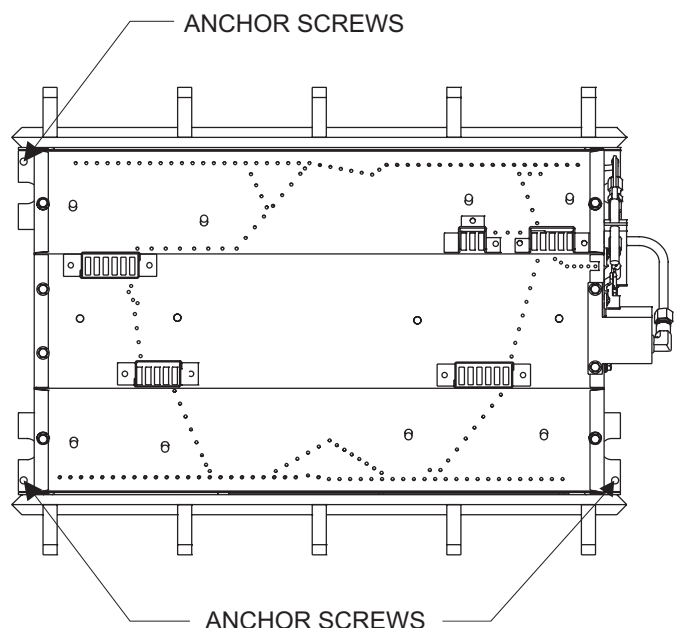

Figure 12
3. Anchor the grate to the fireplace/firebox floor using the screws provided. Refer to **Figure 12**.